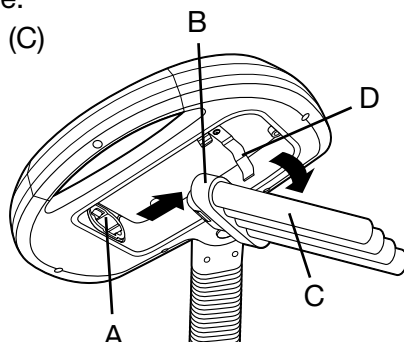

Fig. 8
3. Firmly hold the bulb base (B) and pull bulb (C) from the socket (A) in an outward motion (Fig. 8).